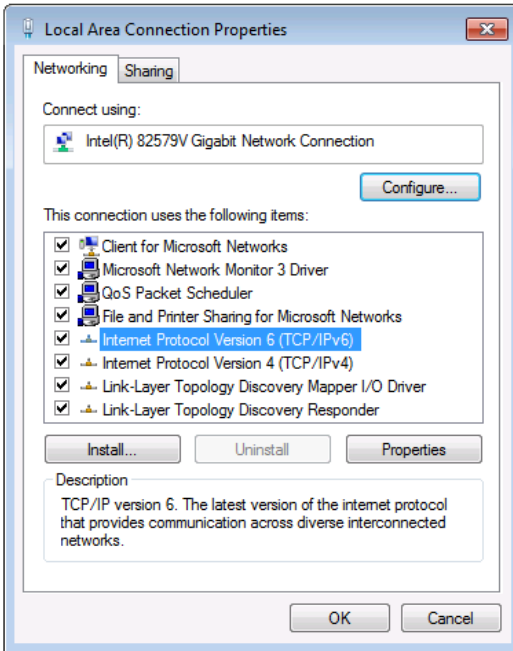

Figure 8: Local Area Connection Properties Window
3. Highlight the network adapter you want to use to connect to the device and click **Change settings of this connection**. The Local Area Connection Properties window for the selected network adapter appears as shown in Figure 8.